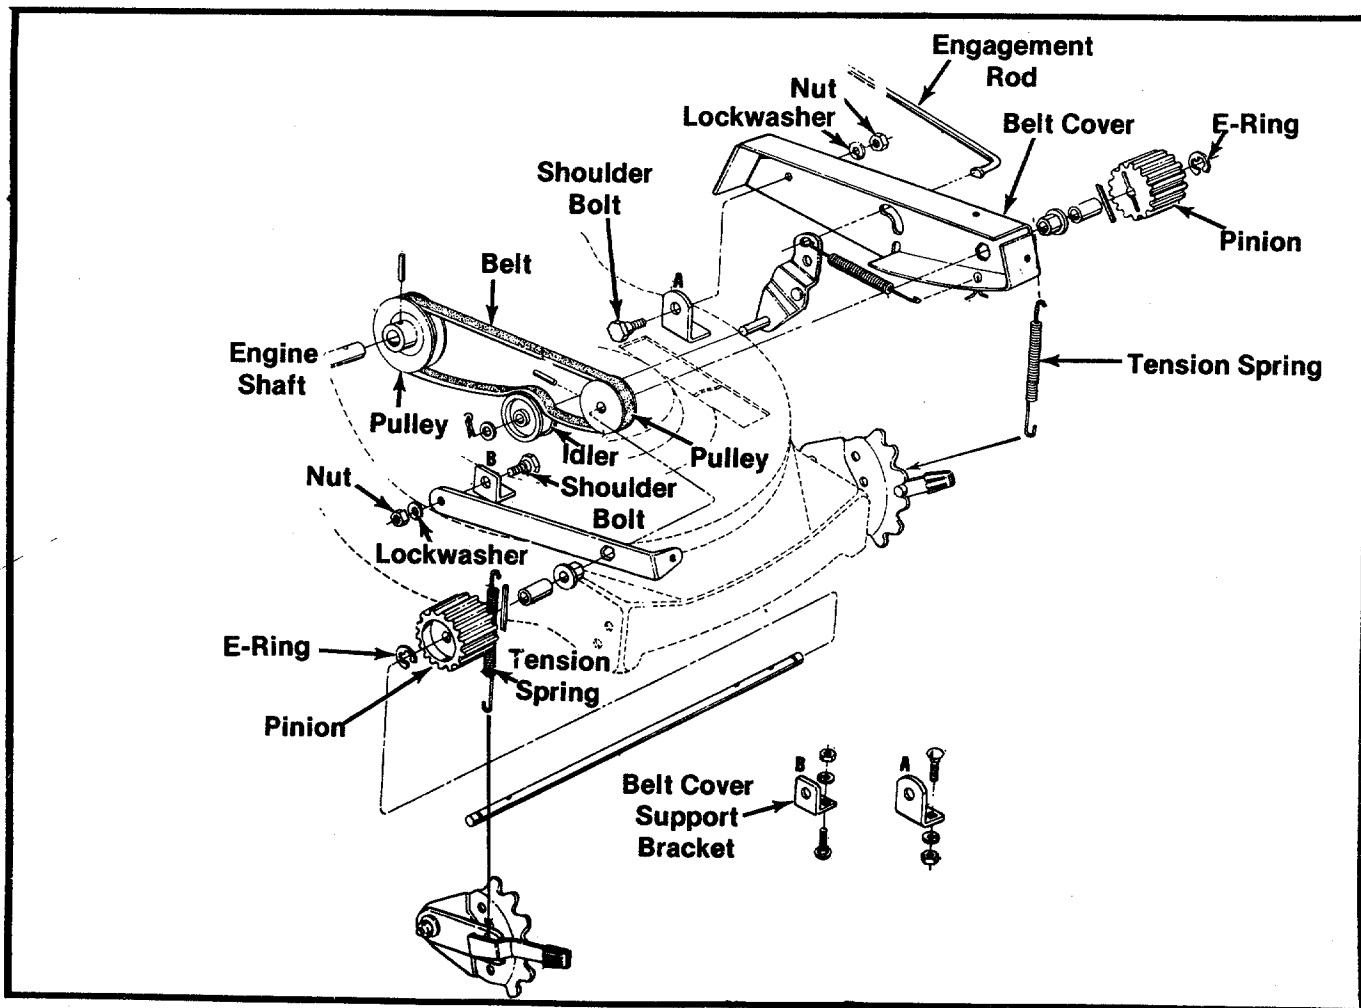

FIGURE 22
1. Remove both tension springs. (See figure 22.)